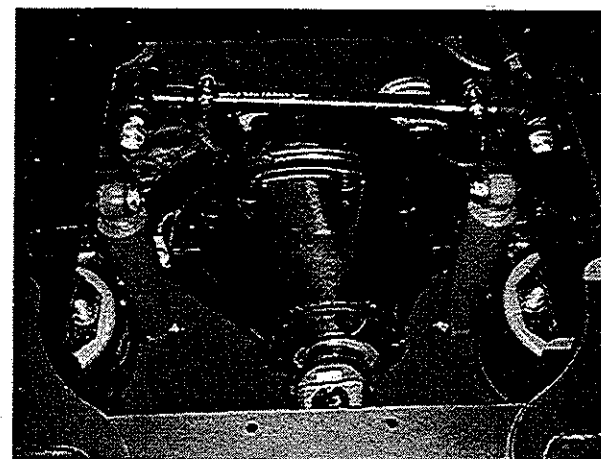

Figure 8—Shock Absorber and Air Bags
3. Remove the air bags from the beam assembly. (See Figure 8—Shock Absorber and Air Bags.)